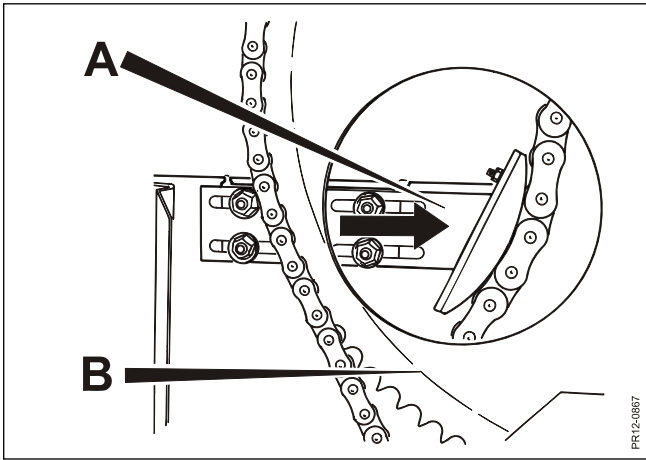

Fig. 9.6
Fig. 9.6 Tightening of 1 ½" chain: the chain tightener (A) is loosened, pushed towards the chain and retightened. It may be appropriate to place the chain wheel (B) in a position as shown on the figure.